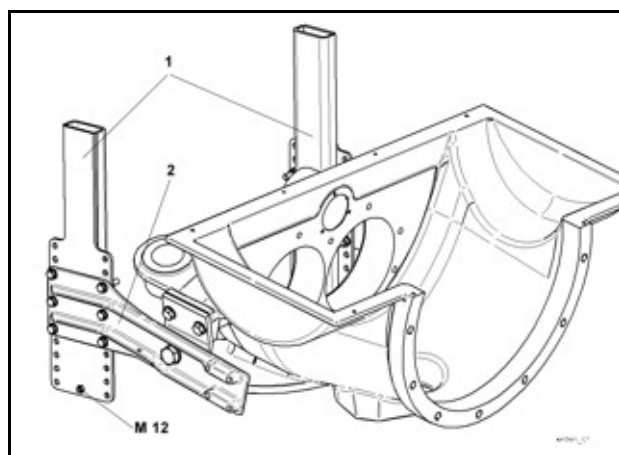

Fig. 27 Rock valve support
A stainless steel screw M12 with nut is pre-installed for the earthing connection on one of the two vertical spars (1) (**Fig. 27**) on the rock valve support (screw inside, nut outside).